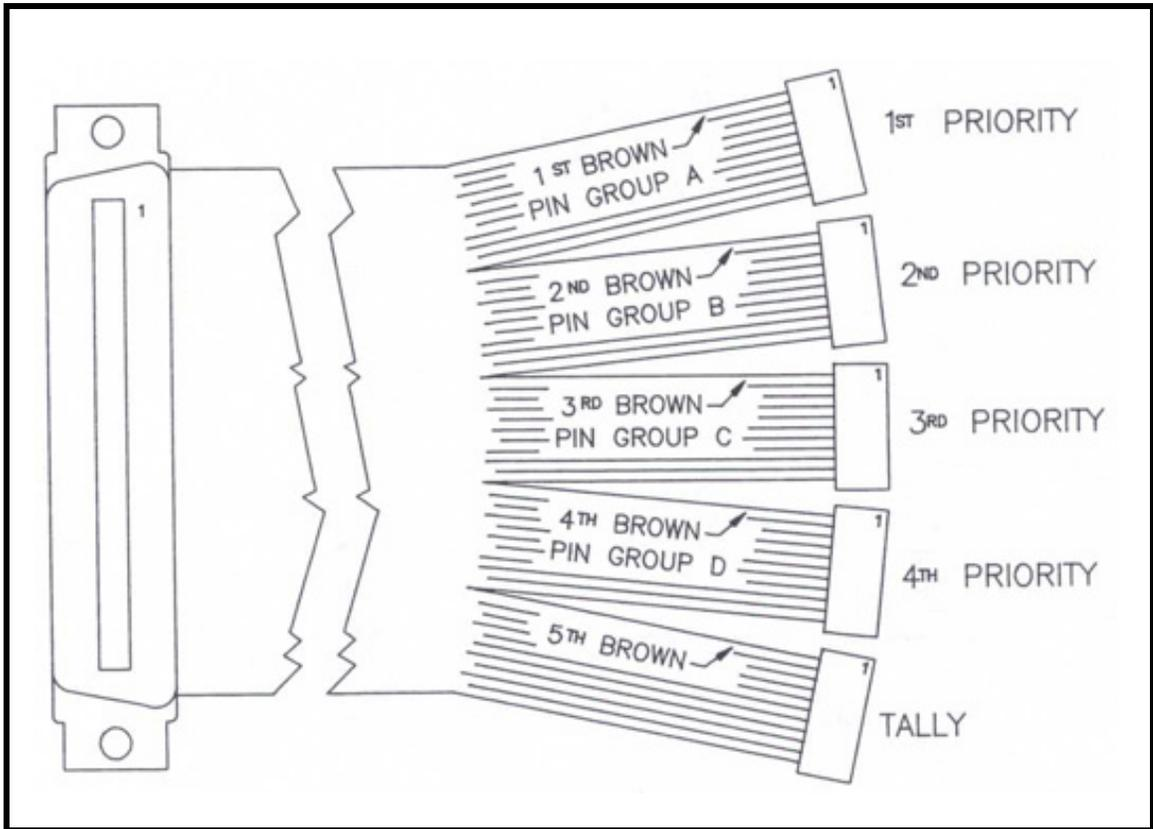
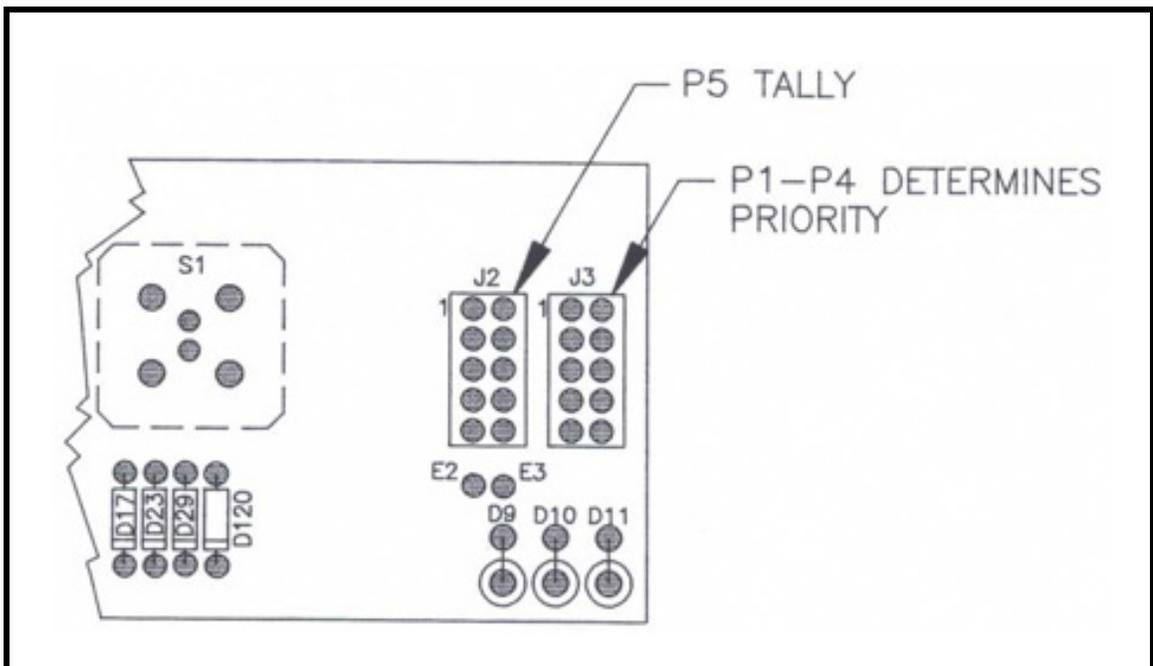
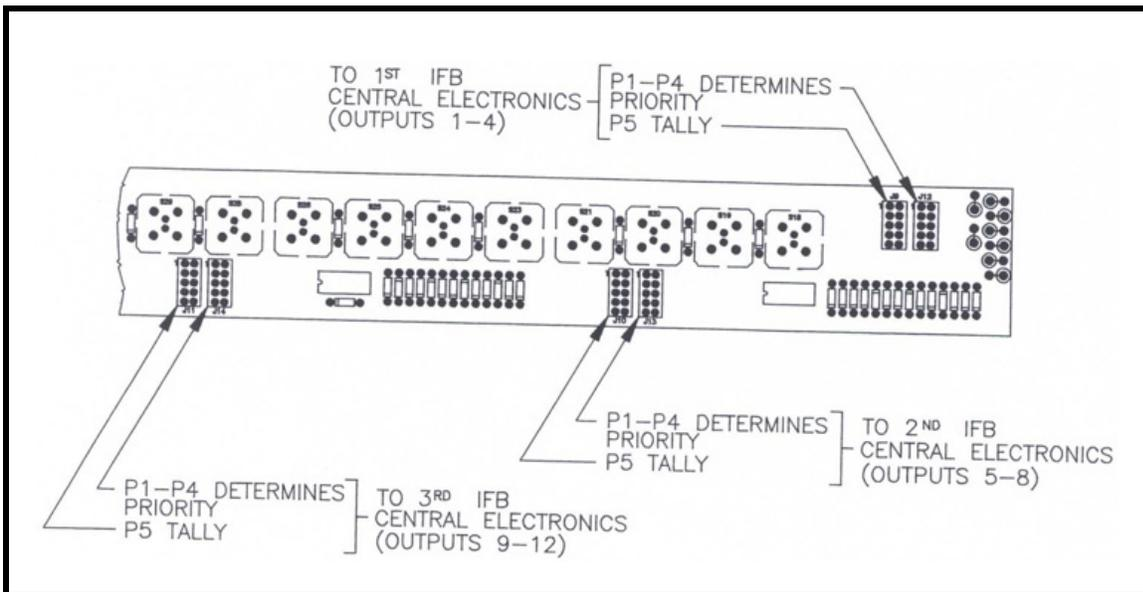

FIGURE 10. Control Station Cable Assembly
FIGURE 11. Priority Connections to 4001 Control Station
FIGURE 13. Priority Connections for 4003 Control Station
The Model 4010 IFB Central Electronics, as supplied, has a priority arrangement by which one Control Stations will override another. The priority of a Control Stations is determined at the Control Station. By changing which plug (Figure 10) goes to which jack on the Control Station's switchboard, the priority of that Control Station can be changed. See Figure 11 through Figure 13. If desired, the priority may be defeated by removing U6 and U16 in the Model 4010 Central Electronics. In this mode all Control Stations have equal priority. The priority override function works only with the IFB keys. The stage announce has no priority feature. The signals are merely mixed together should two (2) Control Stations be keyed simultaneously.